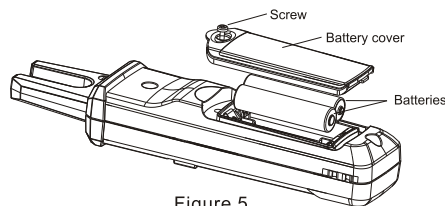

Figure 5
- 2) Loosen and remove the screw of the rear cover by screw driver, remove the battery cover, take out the old batteries as figure 5.